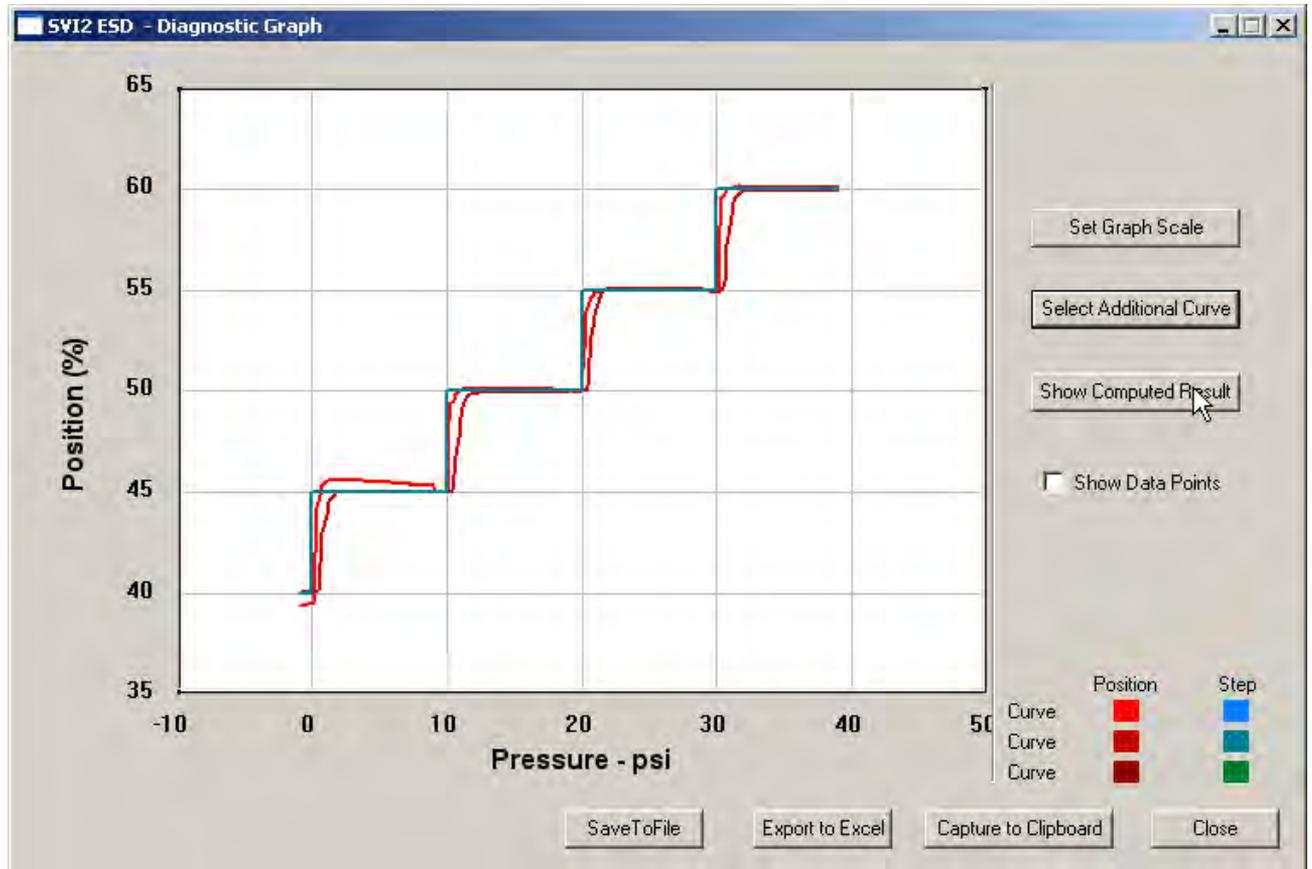

Figure 192 Selecting Show Computed Result
- Click **Show Computed Result** (Figure 192).